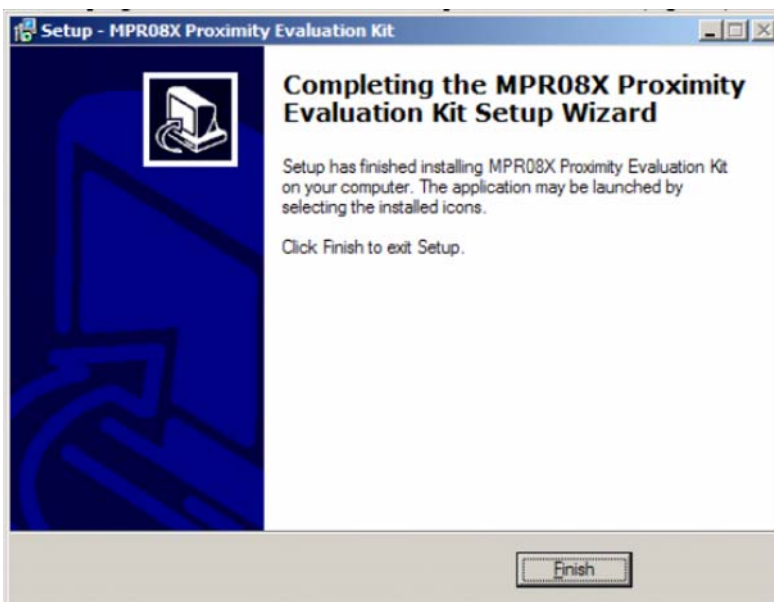

Figure 7. Install Complete
7. The program will then install. When completed, select “Finish” (Figure 7).